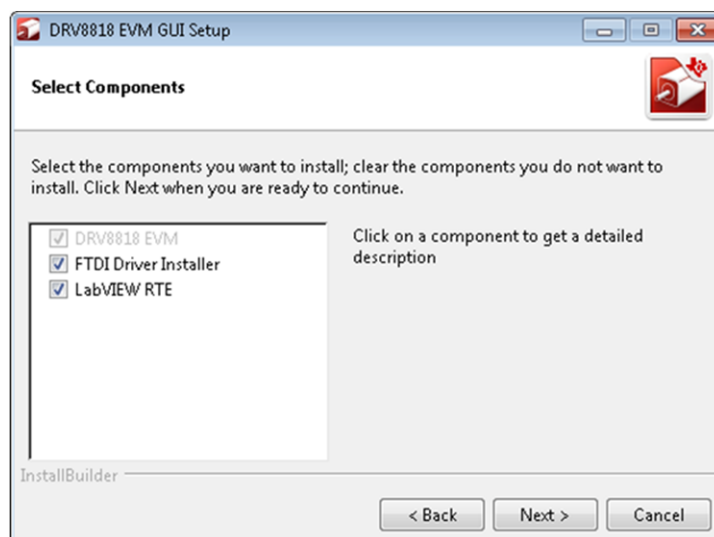

Figure 6. Component Selection
6. A screen as shown in Figure 6 appears. This screen is to select the components to install. Select the Components to Install and Click **Next** to continue installation. The LabVIEW RTE component checks out if the LabVIEW RTE 2014 is already installed on the PC.